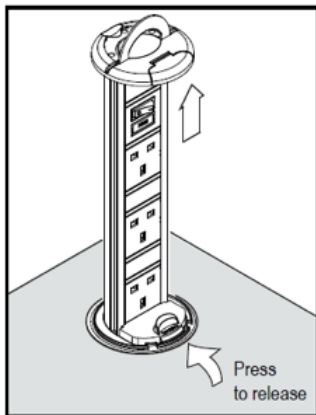

Fig. 3b
- To lower the product press the release button (see Fig 3b)